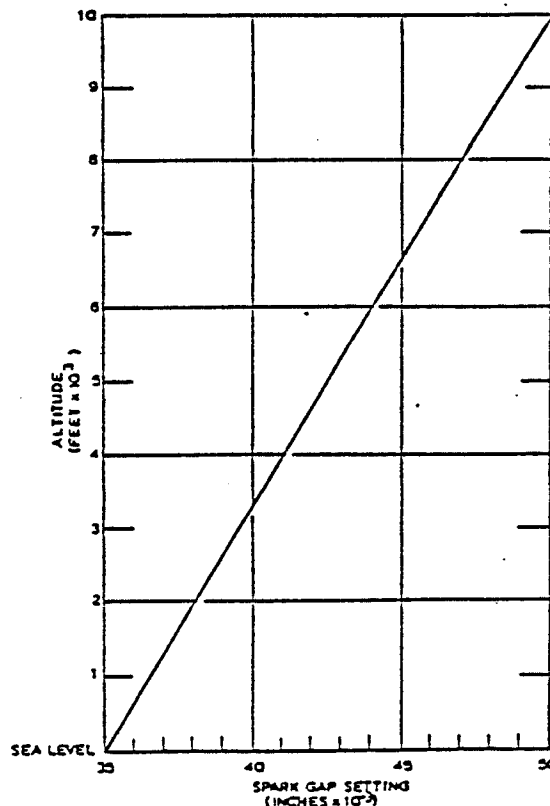

Figure 3-2
- (a) Refer to figure 3-2 to determine the spark gap for the altitude of the transmitter site.